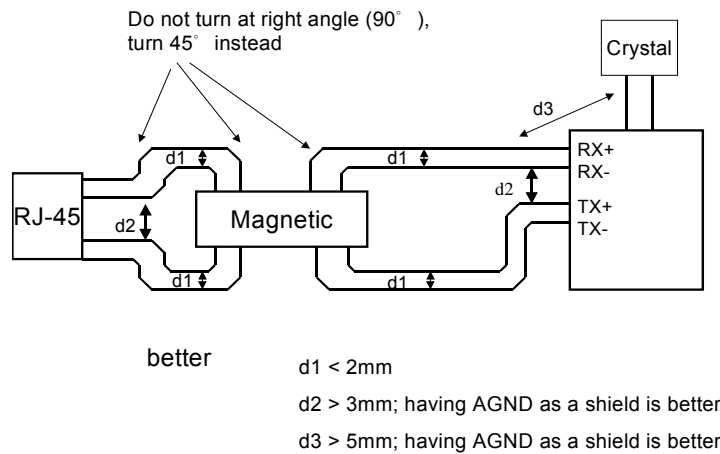
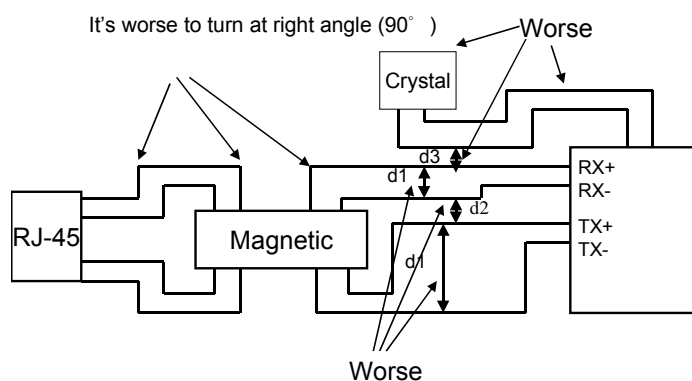

Fig.1-1 Better example for signal and trace routing
Fig.1-2 Worse example for signal and trace routing
- The network interface (see **Figure 1-1** and **Figure 1-2**) does not route any digital signal between the DM8203 RX± and TX± pairs to the RJ-45. Keep the two pairs away from all the other active signals and the chassis ground.
- Any terminated pins of the RJ-45 connector and the magnetic (see **Figure 1-1** and **Figure 1-2**) should be tied as closely as possible to the chassis ground through a resistor divider network 75Ω resistors (no more than 2mm to the magnetic) and a 0.01μF/2KV bypass capacitor.